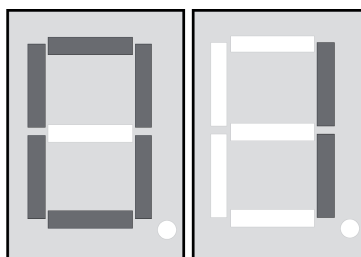
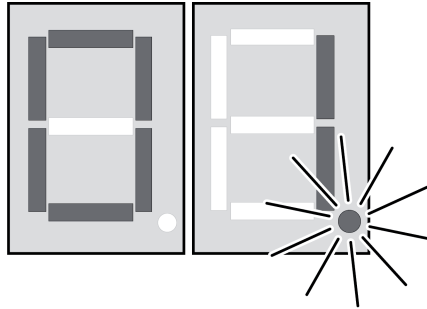

Figure 4: Channel display lights up
Figure 5: Assignment mode
- Connect 9 V block battery to connection clip (8).
The channel display (13) lights up and indicates the current radio channel (Figure 4).
- Press the both buttons ▲ and ▼ (12) for approx. 5 seconds. The right-hand decimal point lights up additionally in the display (Figure 5).
The channel display (13) lights up (Figure 4).
- Press both buttons ▲ and ▼ (12) for approx. 5 seconds.
- The right-hand decimal point lights up additionally in the display (Figure 5).
- Use the ▲ / ▼ buttons (12) to select the desired new radio channel.
- Press both buttons ▲ and ▼ (12) for approx. 10 seconds.